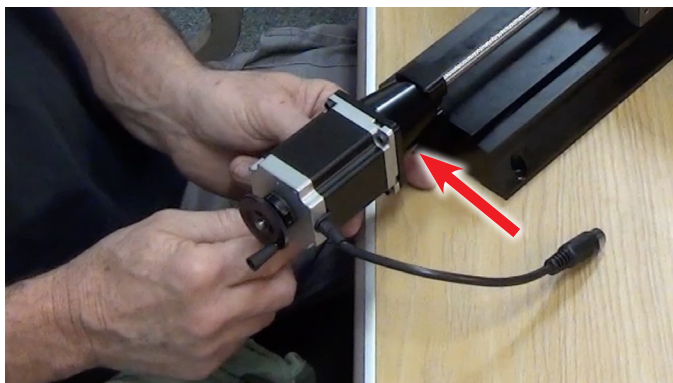

FIGURE 4—The red arrow is pointing to the three mounting holes at the base of the stepper motor mount adapter.
2. Then loosen the 10-32 and the two 8-32 screws from the stepper motor mount adapter (see Figure 4). You can just turn them out until they are no longer threaded into the base but leave them in the holes of the adapter.